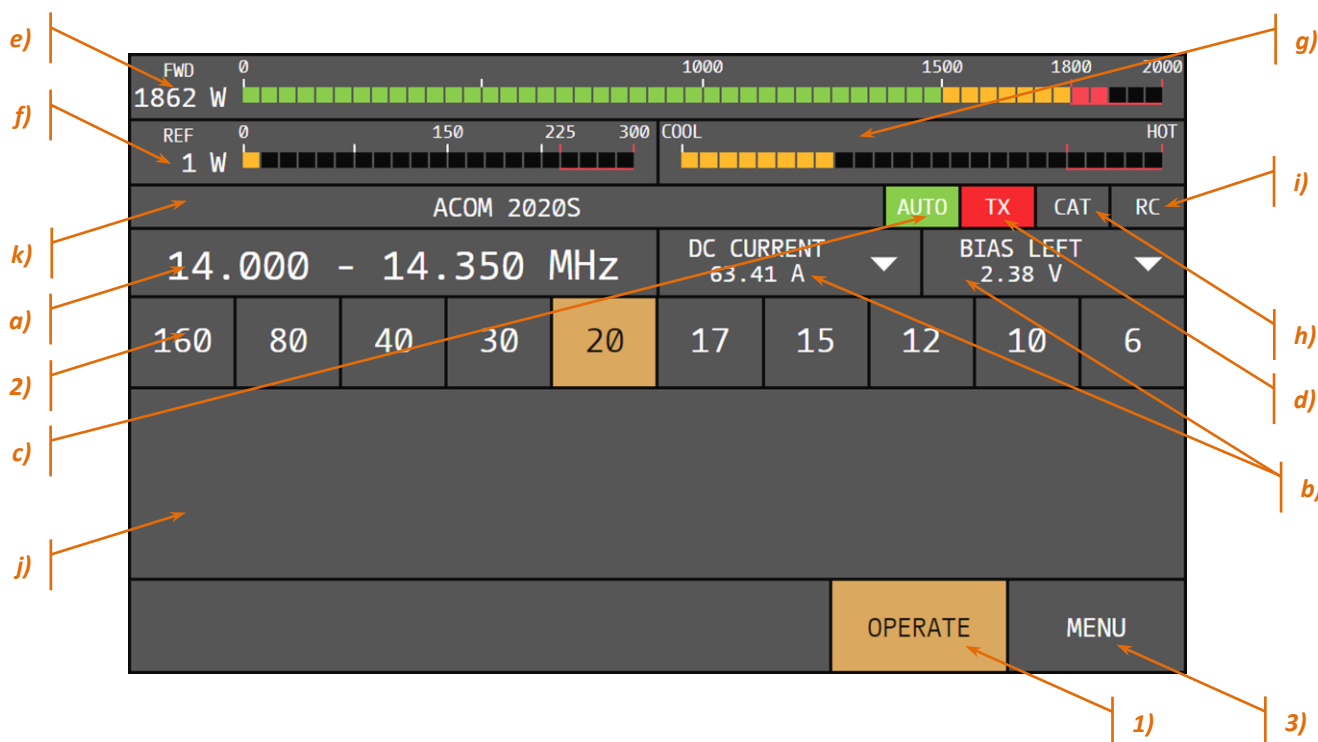

Figure 3-2 Basic screen
In order to start up the amplifier, push and hold the RCU's rear panel **POWER** button for one or two seconds. After pressing the power button you will hear two short beeps, indicating that power on sequence is started. About ten seconds later (boot sequence) the touch screen will flash and show the basic screen with the amplifier information (see *Figure 3-2 Basic screen*).
Please, see **Figure 3-2 Basic screen**, Pos. (a).
It changes automatically in case the amplifier is sent a signal in a frequency range, different than the one currently selected. However, it is recommended to manually change to the intended range using the band-selection buttons (see **Figure 3-2 Basic screen**, Pos. (2)).
Please, see two parameter panels on **Figure 3-2 Basic screen**, Pos. (b).
Please, see **Figure 3-2 Basic screen**, Pos. (c).
Please, see **Figure 3-2 Basic screen**, Pos. (d).
Please, see **Figure 3-2 Basic screen**, Pos. (e).
Please, see **Figure 3-2 Basic screen**, Pos. (f).
Please, see **Figure 3-2 Basic screen**, Pos. (g).
Please, see **Figure 3-2 Basic screen**, Pos. (h).
Please, see **Figure 3-2 Basic screen**, Pos. (i).
Please, see **Figure 3-2 Basic screen**, Pos. (j).
Please, see *Figure 3-2 Basic screen*, Pos. (k).
Please, see *Figure 3-2 Basic screen*, Pos. (1).
Please, see *Figure 3-2 Basic screen*, Pos. (2).
These ten buttons are used to select the desired band and are labeled in meters. Currently selected band is highlighted and upon selecting one, the FREQUENCY indicator (see *Figure 3-2 Basic screen*, Pos. (a)) changes its value to reflect the change.
Please, see *Figure 3-2 Basic screen*, Pos. (3).
Turn the amplifier on, as described in Sections **3.1 Low Energy STANDBY Mode of the Power Supply** through **3.4 Basic Screen** (see **Figure 3-2 Basic screen**).